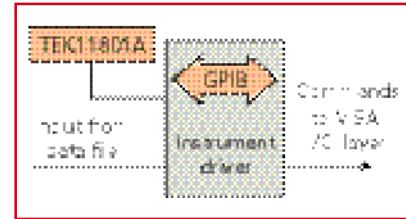

Figure 3 AMCC's universal instrument driver uses a text box to identify configuration files for the driver. *Courtesy of AMCC.*
The LabView code in Figure 3 shows how Travis used the universal driver to initialize the test equipment. The driver, represented by a LabView virtual instrument (VI) box marked "GPIB," knows which configuration file to use based on a text box containing an instrument name.